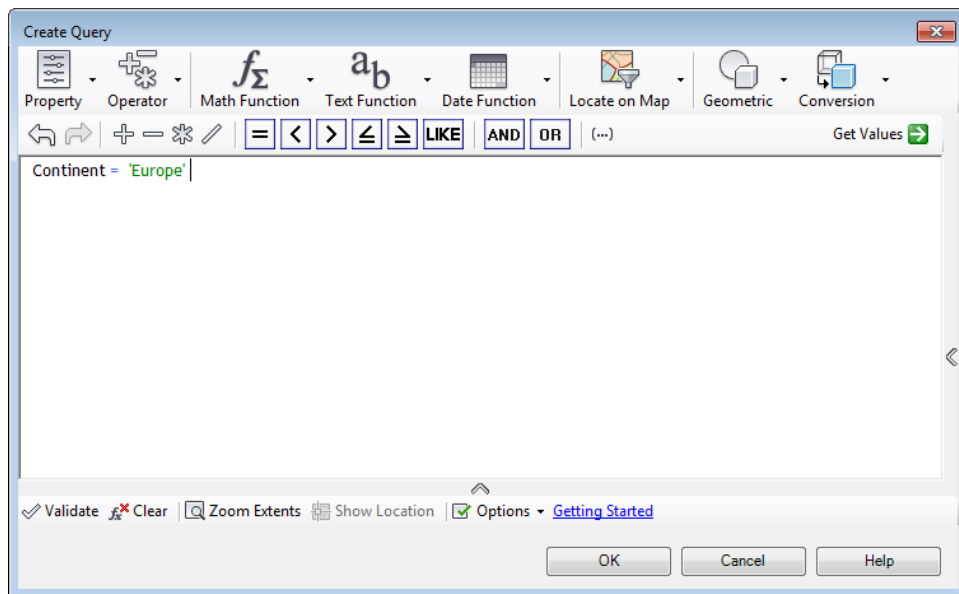

Figure 2-29 The Create Query window displaying the query
13. Enter **Continent = 'Europe'** in the edit window, as shown in the Figure 2-29, and choose the **OK** button in the **Create Query** window; the query is executed and the filtered map objects are added to the drawing window. Next, close the **DATA CONNECT** wizard.